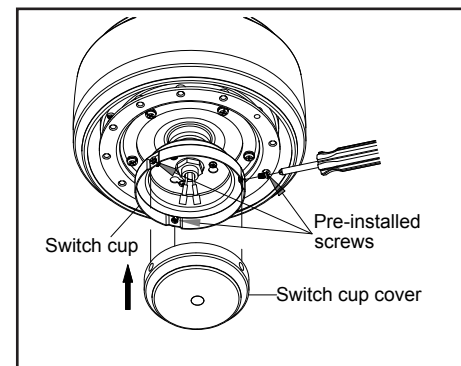

Figure 15
3. Remove pre-installed screws from the switch box cover and position the switch box cover onto the switch box. (Figure 15)